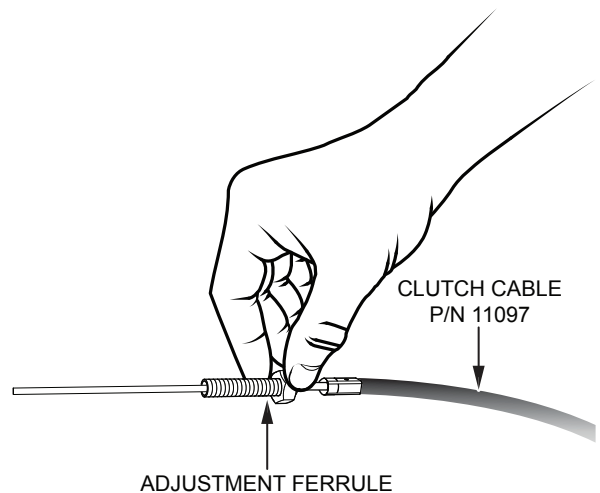

Figure 29. Adjustment Ferrule Placement
1. Make sure the clutch cable adjustment ferrule is placed onto the end of the clutch cable (P/N 11097). See Figure 29.